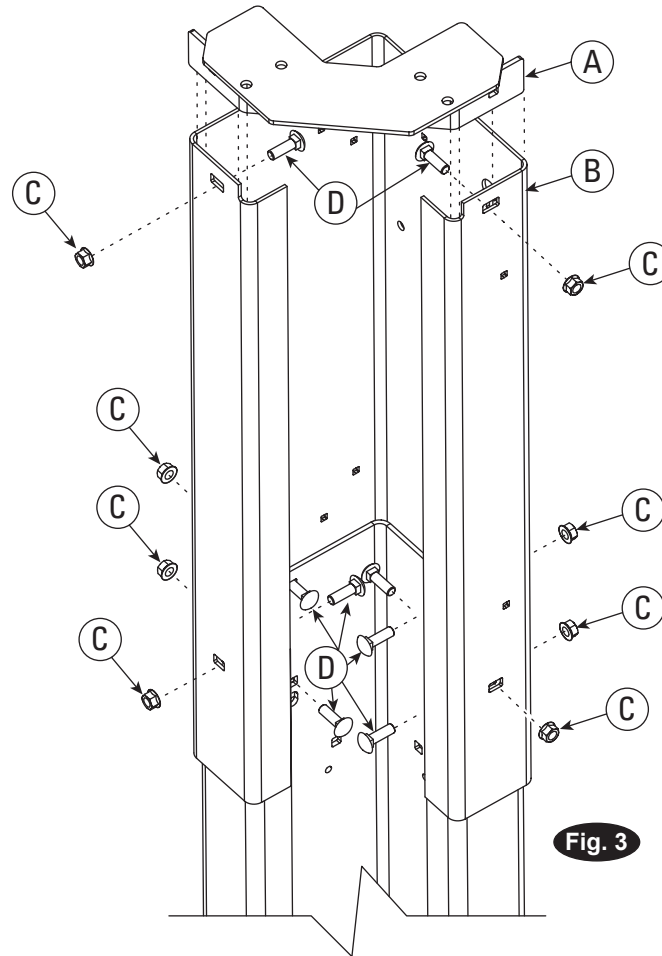

Fig. 3
Before standing columns upright, install the column extensions using (12) M10x20mm Carriage HHCS and Flanged Locknuts, Fig. 3. Overhead Mounting Bracket: Install Mounting Brackets to column extensions, Fig 3.